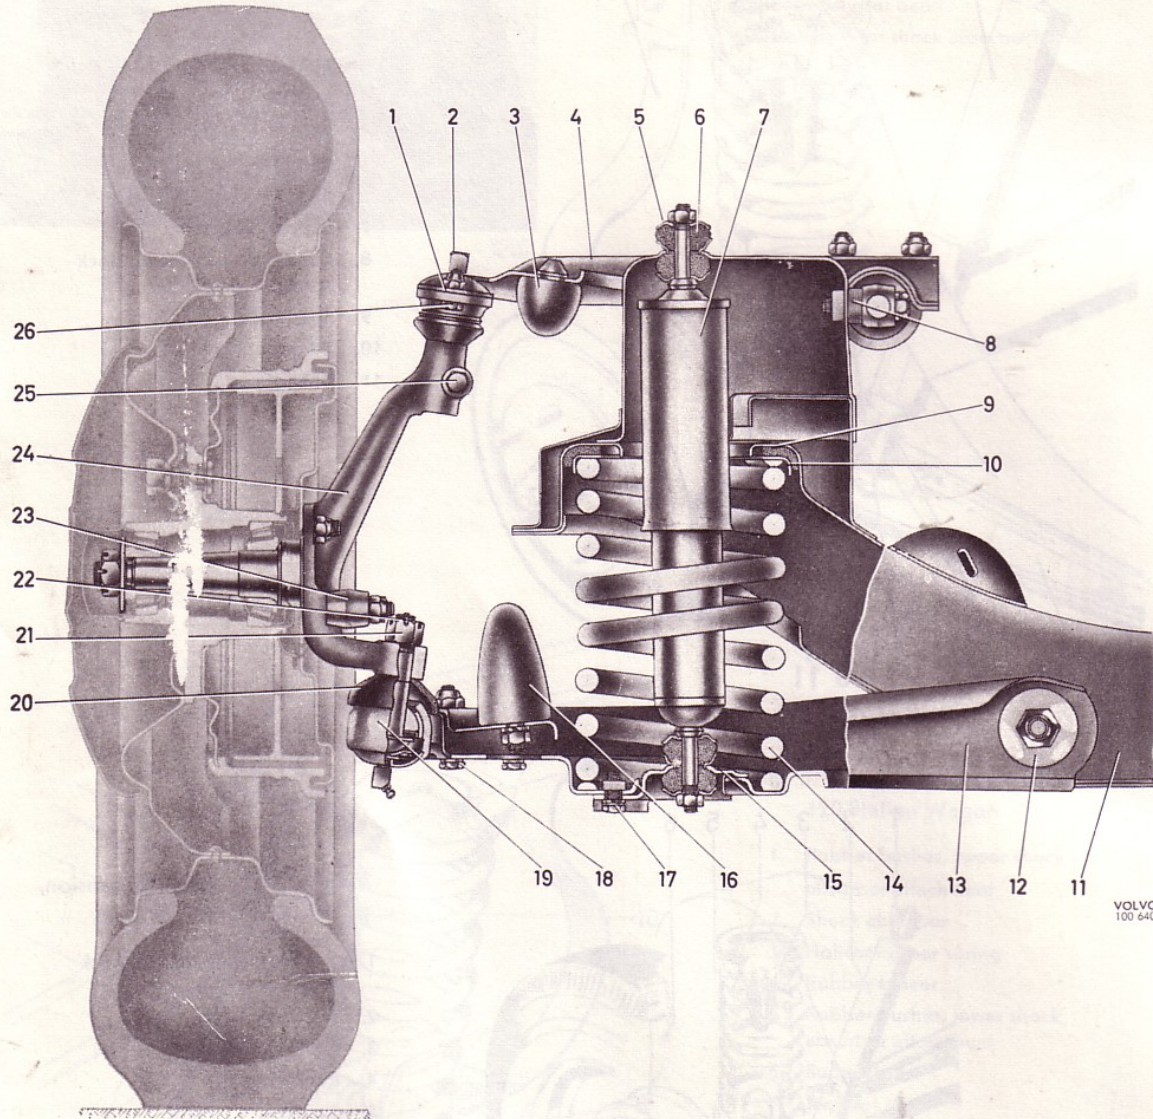

Fig. 8. Front spring and shock absorber
Place the rubber spacer (9, Fig. 8) and washer (10) in position in the spring housing in the front axle member and fit the spring in the reverse order to removal.
4. Installing is in reverse order to removal. Place the washers as shown in Fig. 8. Tighten the nuts in accordance with the instructions under "Installing the shock absorbers".